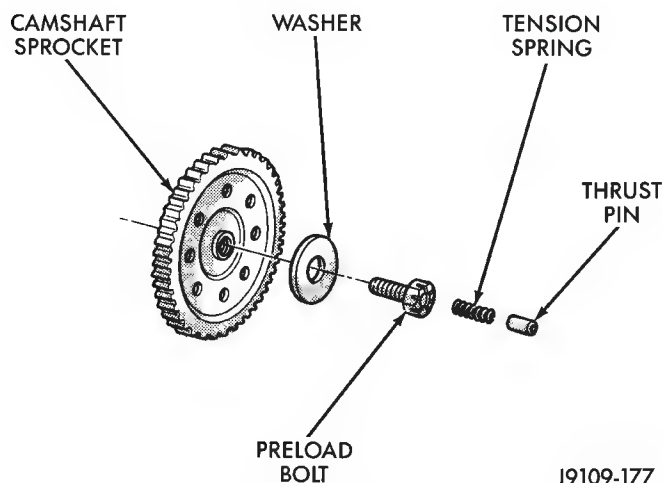
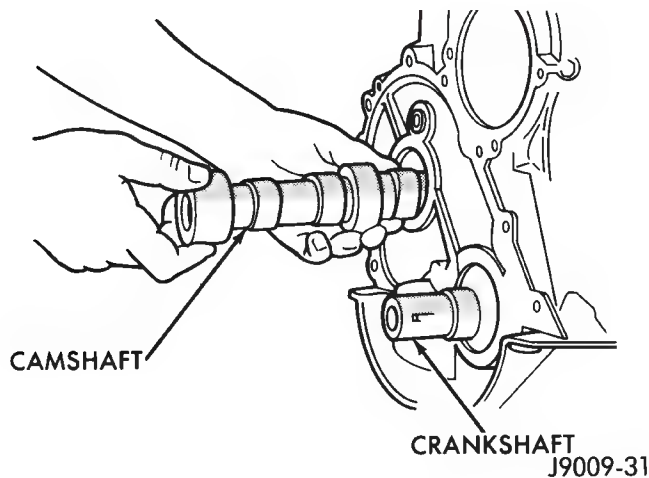
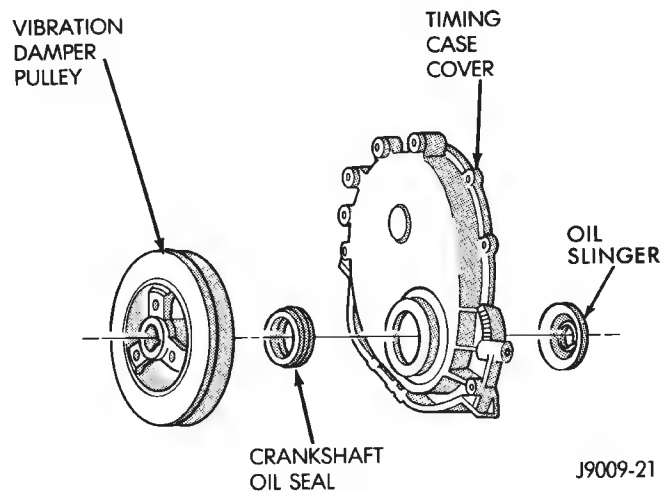

Fig. 6 Camshaft Sprocket Preload Bolt
Fig. 8 Camshaft
Fig. 9 Timing Case Cover Components
(7) Remove the oil slinger from the crankshaft.
(8) Remove the tension spring and thrust pin from the preload bolt (Fig. 6). Remove the camshaft sprocket retaining preload bolt and washer.
(9) Remove the crankshaft sprocket, camshaft sprocket and timing chain as an assembly.
(3) To verify correct installation of the timing chain, turn the crankshaft to position the camshaft sprocket timing mark as shown in Fig. 8. Count the number of chain pins between the timing marks of both sprockets. There must be 15 pins.
(4) Install the crankshaft oil slinger.
(5) Replace the oil seal in the timing case cover.
(6) Lubricate the tension spring, thrust pin and pin bore in the preload bolt with Mopar Engine Oil Supplement, or equivalent. Install the spring and thrust pin in the preload bolt head (Fig. 6).
(7) Install the timing case cover and gasket.
(8) With the key installed in the crankshaft keyway, install the vibration damper, washer and bolt. Lubricate and tighten the bolt to 108 N·m (80 ft. lbs.) torque.
(9) Install the serpentine drive belt and tighten to the specified tension (refer to Group 7, Cooling System for the proper procedure).
(10) Install the fan and hub (or Tempatrol fan) assembly. Install the shroud.
(11) Connect negative cable to battery.
(6) Remove the distributor and ignition wires.
(7) Remove the engine cylinder head cover.
(8) Remove the rocker arms, bridges and pivots.
(9) Remove the push rods.
(10) Remove the engine cylinder head and gasket.
(11) Remove the hydraulic valve tappets from the engine cylinder head.
(12) Remove the vibration damper.
(13) Remove the timing case cover.
(14) Remove the timing chain and sprockets.
(15) Remove the front bumper and/or grille, as required.
(16) Remove the camshaft (Fig. 8).
- (1) Lubricate the camshaft with Mopar Engine Oil Supplement, or equivalent.
- (2) Carefully install the camshaft to prevent damage to the camshaft bearings (Fig. 8).
- (3) Install the timing chain, crankshaft sprocket and camshaft sprocket with the timing marks aligned.
- (4) Install the camshaft sprocket retaining preload bolt. Tighten the bolt to 108 N·m (80 ft. lbs.) torque.
- (5) Lubricate the tension spring, the thrust pin and the pin bore in the preload bolt with Mopar Engine Oil Supplement, or equivalent. Install the spring and thrust pin in the preload bolt head.
- (6) Install the timing case cover with a replacement oil seal (Fig. 9). Refer to Timing Case Cover Installation.
- (7) Install the vibration damper (Fig. 9).